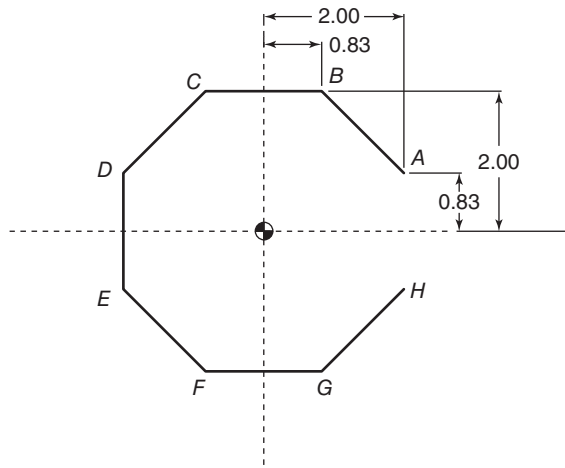

Figure 17-66 Answer to Problem 7.
7. Not a closed octagon. See Fig. 17-66.